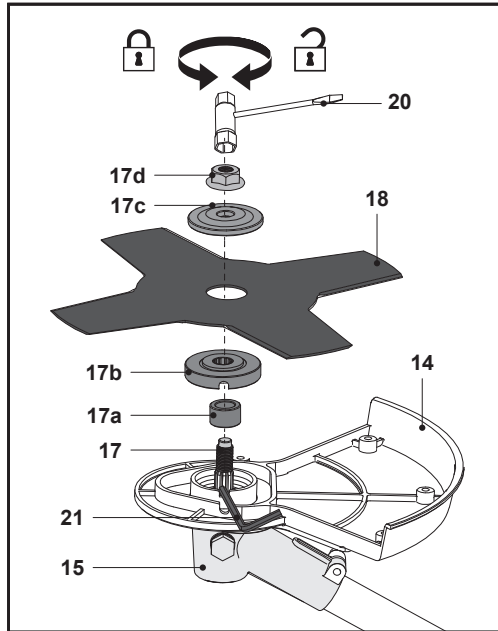

Fig. 8
1. Make sure the cutter guard (14) has been attached properly.
2. Make sure the inner bushing (17a) and the backing flange (17b) has been fitted on the spindle (17) properly.
3. Rotate the backing flange (17b) until its hole is aligned with the notch in the gear head (15).
4. Insert the bigger end of multi-tool (21) into the hole to lock the spindle (17).
5. Fit the cutter blade (18) onto the spindle (17). Ensure that the cutter blade (18) sits flush on the extruded ring on the backing flange (17b).
6. Place the locking flange (17c) onto the cutter blade (18).
7. Secure the cutter blade (18) by tightening the nut (17d) anticlockwise using the supplied socket spanner (20) (Fig. 8).